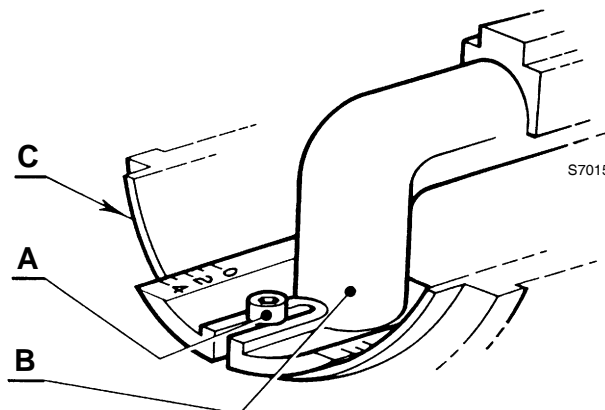

Fig. 11
- loosen the screw A (Fig. 11), move the elbow B) so that the rear plate of the coupling (C) coincides with the set point;